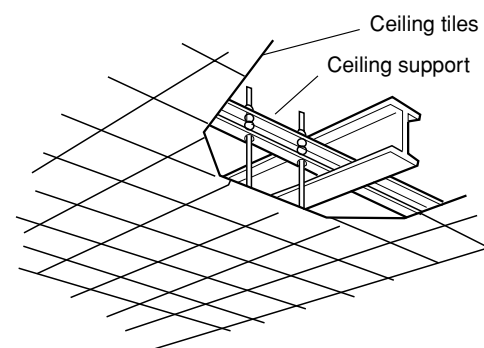

Fig. 3-21
- Use existing ceiling supports or construct a suitable support as shown in Fig. 3-21.